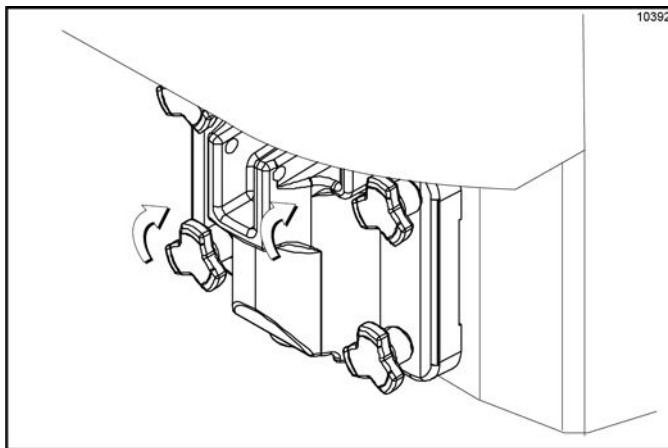

Figure 6-30
14. Insert the baffle rod through the beater in the freezing cylinder. With the door seated on the freezer studs, install the handscrews. Tighten them equally in a crisscross pattern to ensure the door is secured. (See Figure 6-30.)